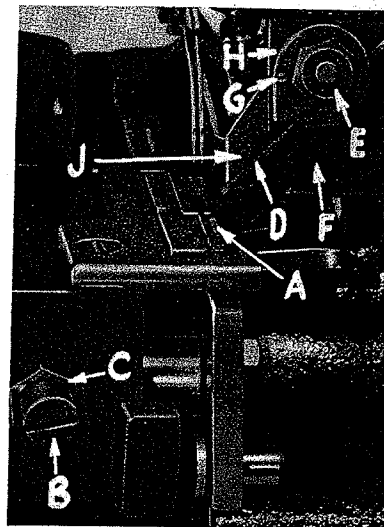

Fig. 12
Replace lower knife holder assembly. Lower knife (A, Fig. 12) should be set with cutting edge flush with throat plate surface. Adjustments are made with hexagonal head screw which holds lower knife. Lower knife is spring pressed against upper knife, so no lateral adjustment is necessary when width of trim is changed.
Replace upper knife assembly. Clamp upper knife (D, Fig. 12) in position, setting nut (E) to hold clamp (F) in its most clockwise position against upper knife. At bottom of its stroke, front cutting edge of upper knife should extend not less than  $1/64$  inch below cutting edge of lower knife. The chain guard (J) should be set down against the upper knife and slightly back from the cutting edge.